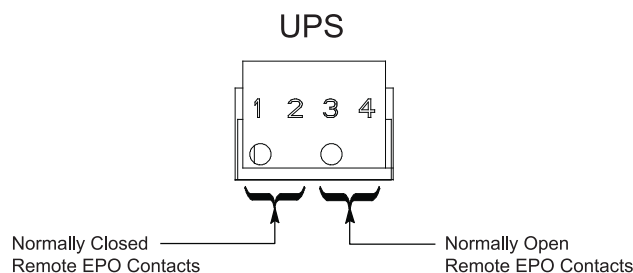

Figure 4-14: Remote EPO terminal block connector assignments
For details on Signal Input, see Figure 4-9 below, and for Remote EPO Terminals, see *Figure 4-14: Remote EPO terminal block connector assignments* on page 42.
3. To locate the appropriate terminals and review the wiring and termination requirements, see *Chapter 3.2.3 UPS system interface wiring preparation* on page 22, Table 4-3, Figure 4-7: *Interface terminal locations* on page 36, Figure 4-8: *Interface terminal detail (terminal cover removed)* on page 36, and Figure 4-14.